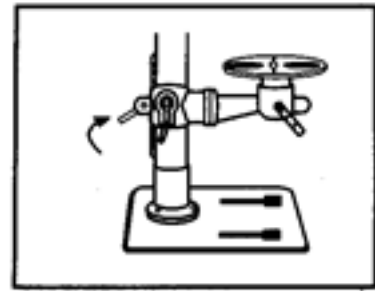

Figure 6
7. Secure the bracket assembly to the column by tightening lock handle. (Fig 6)
Your drill press must be securely fastened by the two base holes (1) to a level floor with heavy-duty fasteners. This will prevent the drill press from tipping over, sliding, or walking during operation (Fig. 6).